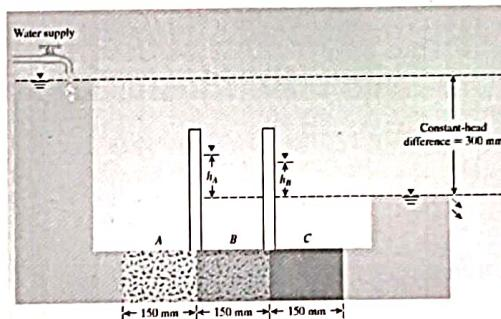

Fig. 5
- c. Fig. 5 shows three layers of soil in a tube that is $120\text{ mm} \times 120\text{ mm}$ in cross-section. Water is supplied to maintain a constant head difference of 300 mm across the sample. The hydraulic conductivities of the soils in the direction of flow through them are as follow: